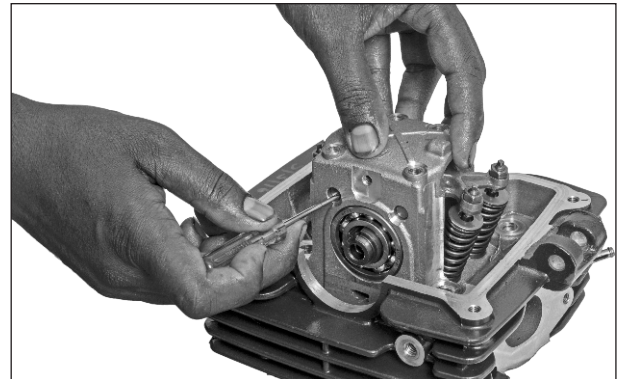

Fig. 3.48
- Using a flat screw driver, gently push out both the shaft rocker arms. (Fig. 3.48)